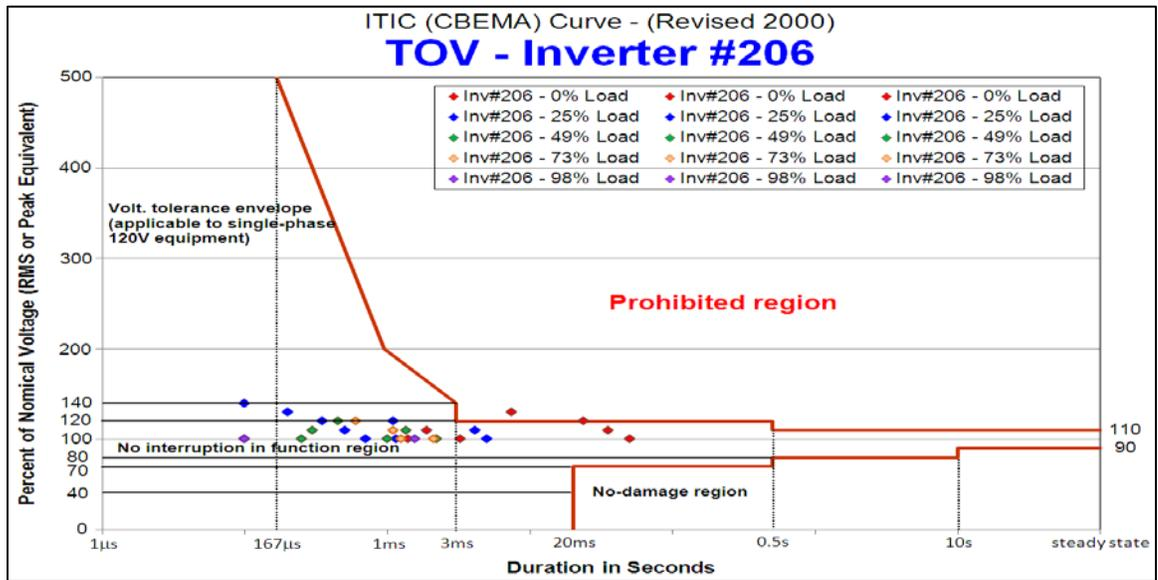

Figure 2.0.2 Temporary Over-voltages on ITIC (CBEMA)
- Only islanding in the 0% load case generates Temporary Over Voltages (TOVs) outside the CBEMA or ITIC curve (tolerance envelope for voltage sensitive loads) into the prohibited region as shown in Figure 2.0.2